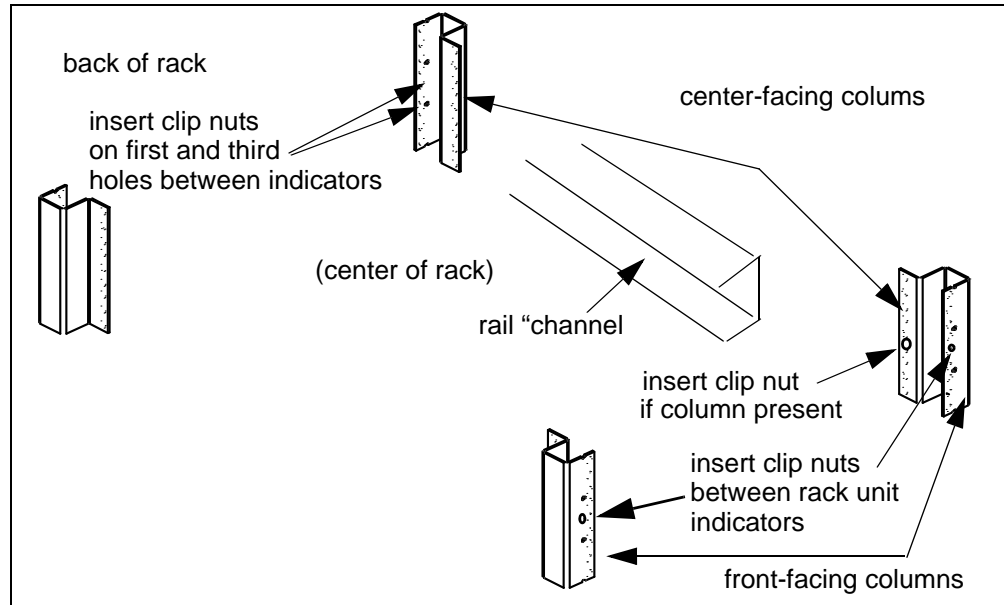

Figure 1-3. Rack Column and Shelf Rail Orientation.
1. Select the vertical position in the rack between any two adjacent EIA unit indicators where the L4400 instrument is to be installed. Insert clip-on nuts (item 5) on the three holes between the unit indicators. Place nuts on both the left and right front-facing columns (Figure 1-3).
If center-facing columns with holes are present on the frame, insert a clip-on nut on the hole perpendicular to the center hole on the front facing column. See Figure 1-3.
If the rack has center-facing columns (Figure 1-3), insert a 10-32 pan head screw through the rail opening and clip nut (perpendicular to the front-facing column). Repeat for the rail on the opposite column.